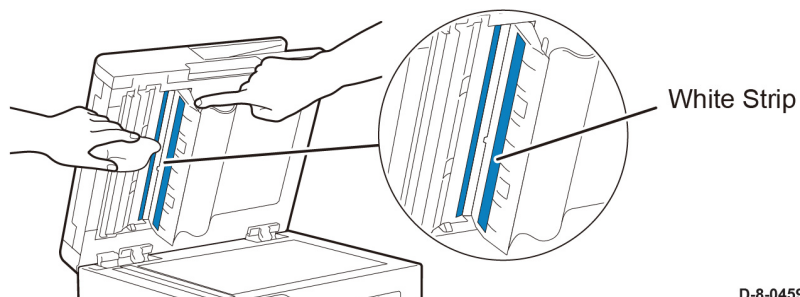

Figure 3 Clean the second-side scanning lens assembly
- Using a soft cloth moistened with water, wipe the mirrored glass Figure 3, the white-plastic strip, and the rollers. If dirt is difficult to remove, moisten a soft cloth with a small amount of neutral detergent. Then wipe the printer parts dry with a soft cloth.